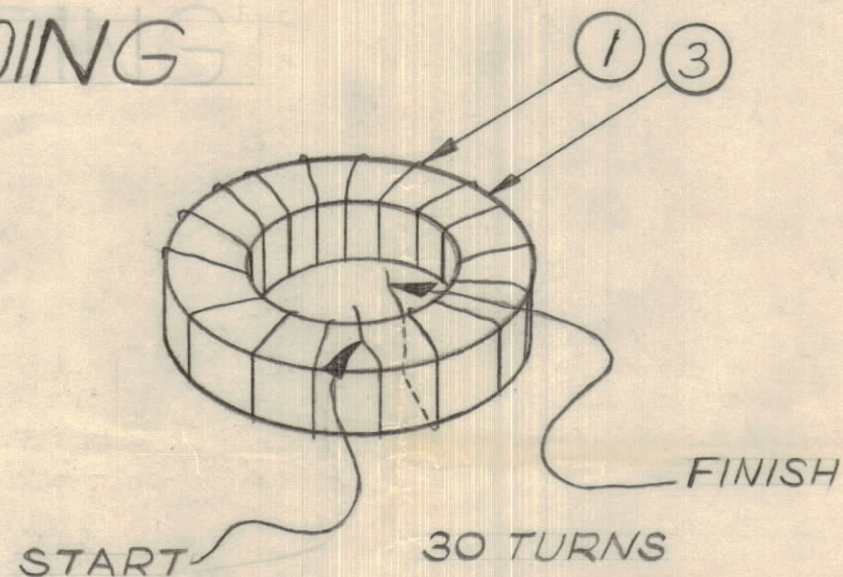

FIG. 1
- WIND PRIMARY 30 TURNS OF MAGNET WIRE (ITEM 1) DISTRIBUTED OVER CORE (ITEM 3) AS PER FIG. 1.